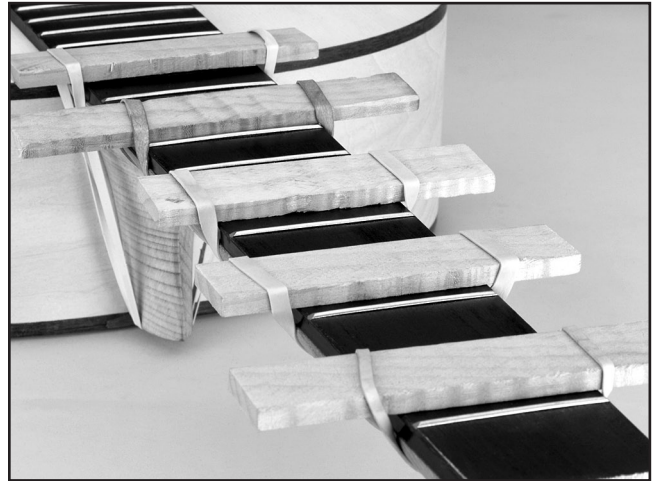

Figure 5. Securing the fingerboard to the neck.
2. Using rubber bands and small sticks of wood, secure the fingerboard to the neck with a thin, even layer of wood glue (**Figure 5**). Note—*Make sure the fingerboard is centered across the width of the neck and that the 12th fret is centered over the neck to body joint.*